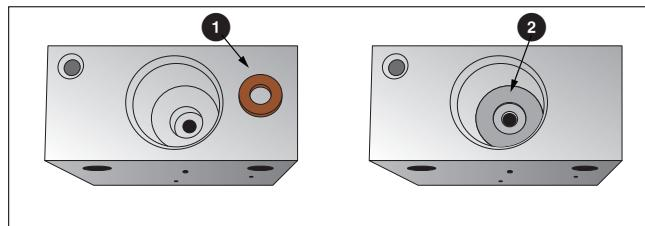
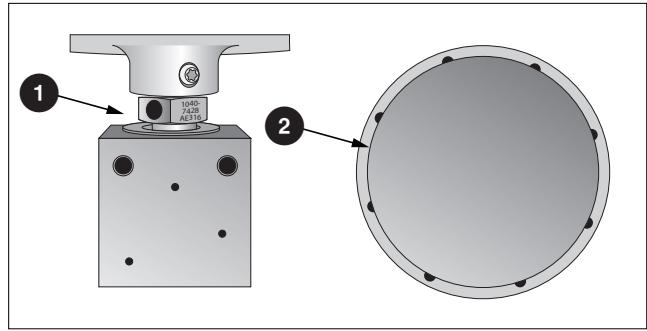

Figure 8. Packing Washer and Packing Set Installation
Figure 9. Stem Vee and Diaphragm Placement
2. Install the Packing Washer (Figure 9, ①) and Packing Set (Figure 9, ②) into the valve body. Make sure that Packing Set is installed as in Figure 8.
3. Install the stem vee assembly into the top half. (Figure 9, ①).
5. Center the new Diaphragm on top. (Figure 9, ②).